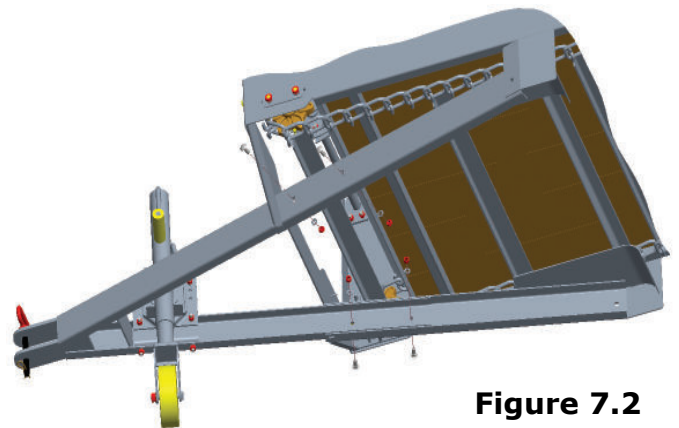

Figure 7.2
1. Slide "V" shaped tongue frame under the chassis far enough to lift the tongue frame up into the "V" shaped welded "C" channels on the chassis then pull the tongue frame toward the front of the chassis until the 4 bolt holes (2 on each side) in the tongue frame line up with the 4 bolt holes (2 on each side) in the chassis "C" channels. Insert supplied carriage bolts into the 4 holes from the outside of frame. **(Figure 7.2).**